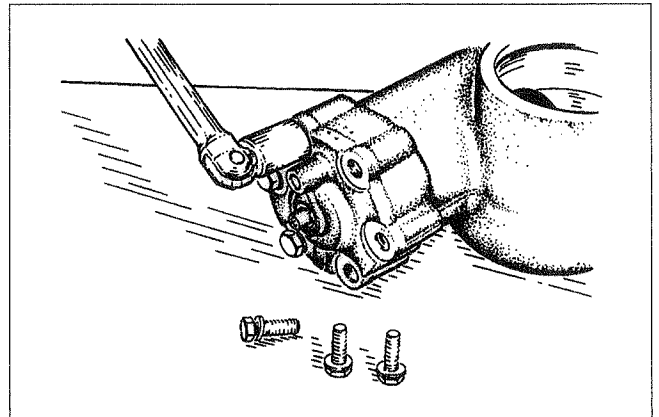

Figure 41
2. Reassemble the inferior (cyl. head) cover and torque to 79Nm (Figure 41).